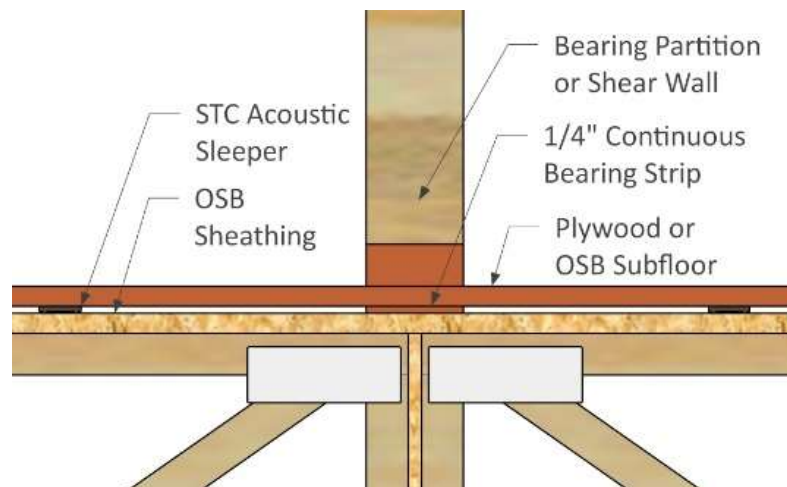

Figure 10: Typical Section Detail at Load-Bearing Partitions
- Fig. 10: Typical detail for load-bearing partitions, including shear walls. Place a continuous plywood bearing strip under partition.